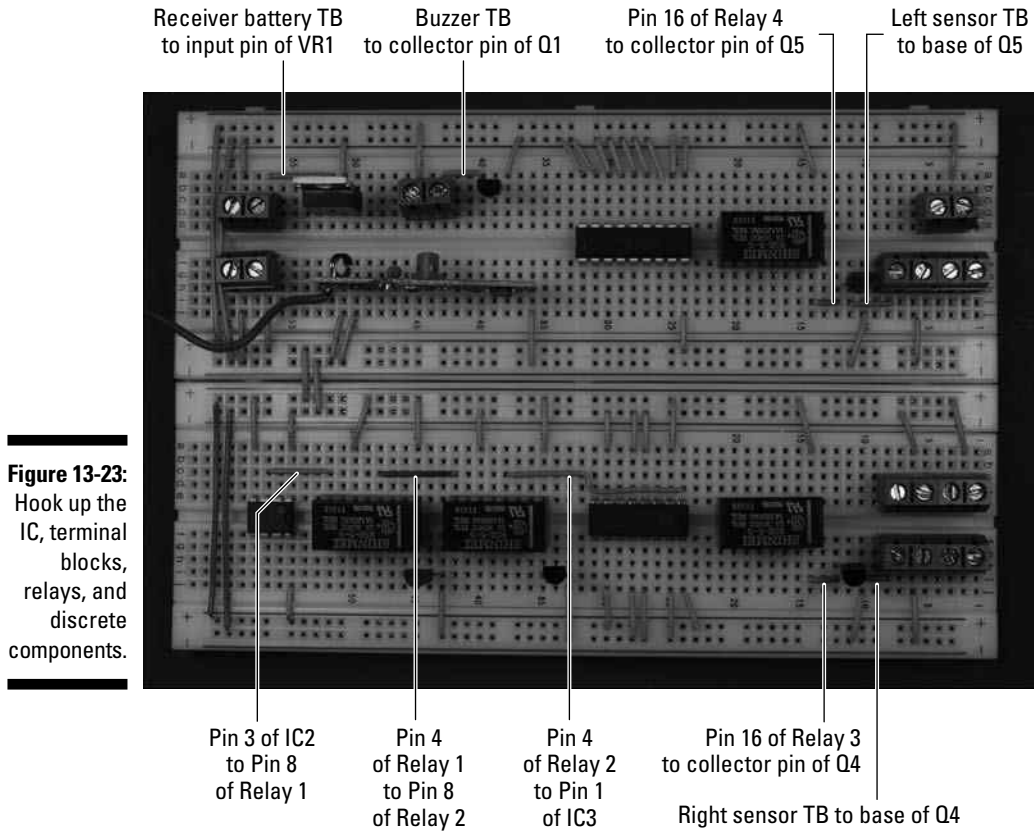

Figure 13-23: Hook up the IC, terminal blocks, relays, and discrete components.
6. Insert wires to connect the ICs, terminal blocks, relays, and discrete components, as shown in Figures 13-23, 13-24, and 13-25.